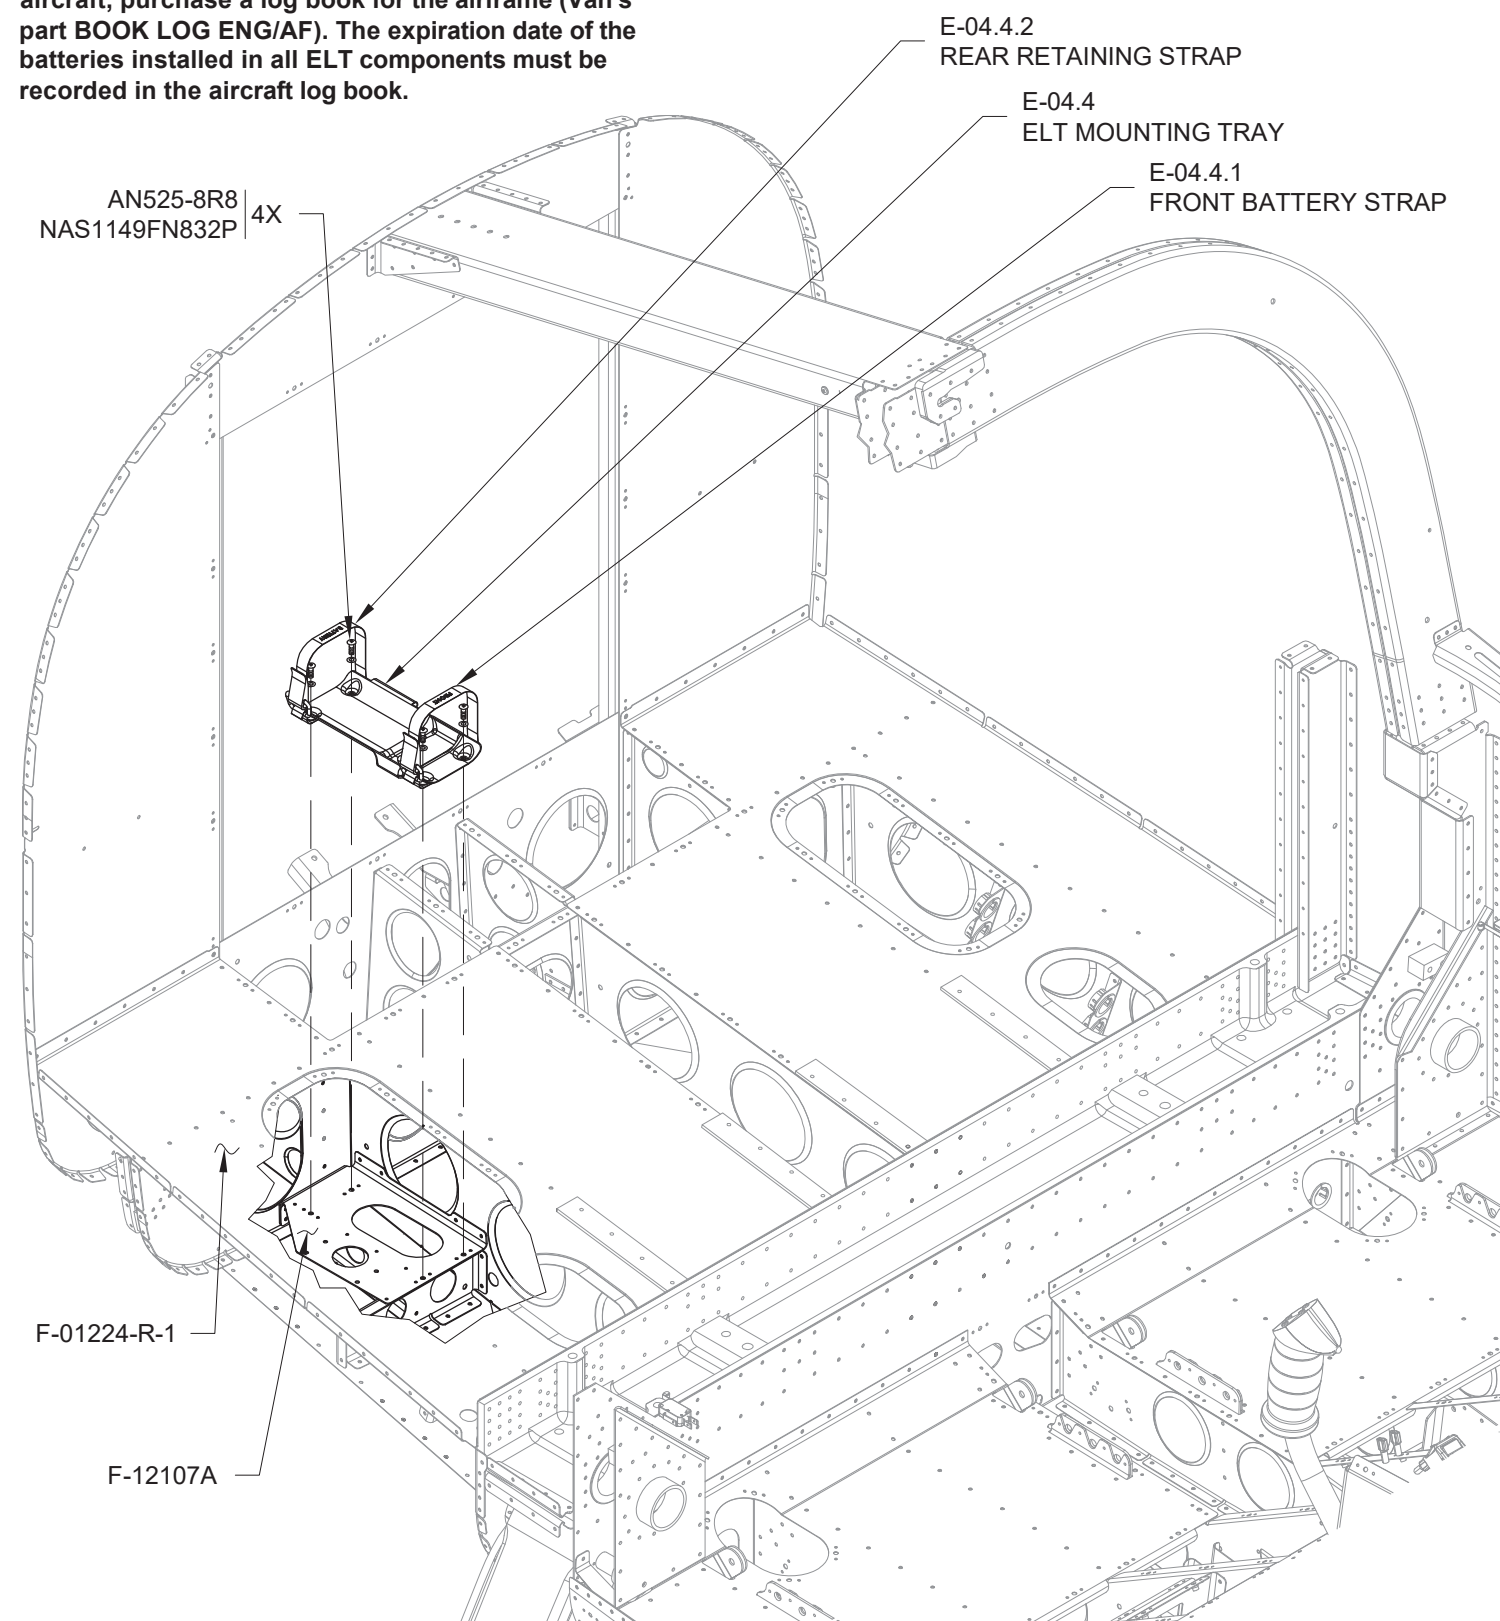

FIGURE 1: INSTALLING THE ELT MOUNTING TRAY
Step 1: Install the E-04.4 ELT Mounting Tray, E-04.4.1 Front Battery Strap, and E-04.4.2 Rear Retaining Strap onto the F-12107A as shown in Figure 1.